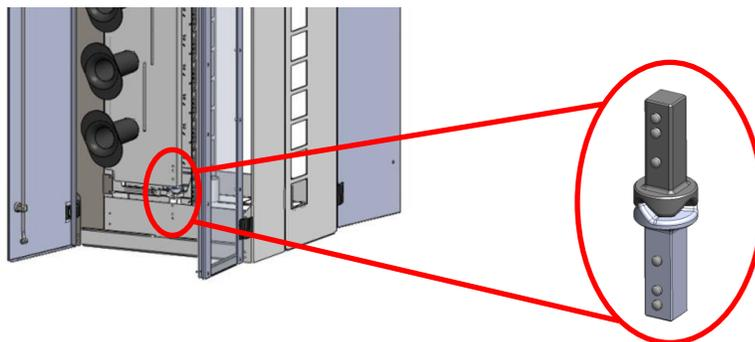

Figure 9
- b. The hinge on the cable management door is a cam pivoting hinge (Figure 9). To open gently use a cable management spool to pull the door open.
2. Place the Deck over the screws and while supporting with one hand tighten each screw to hand tight torque (Figure 9).